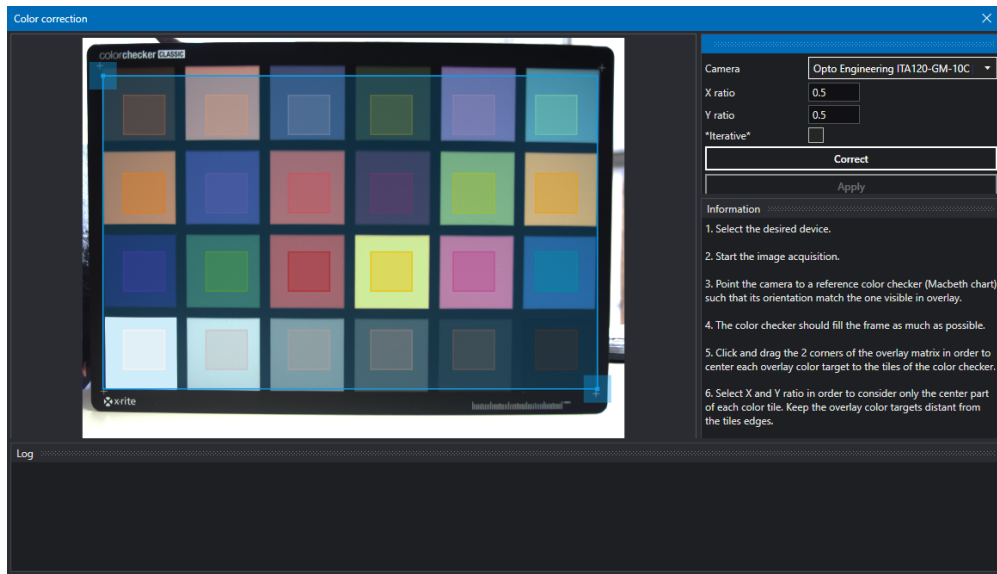

Figure 26: For optimal results, make sure to align the wizard color mask to the Macbeth color chart tiles.
5. The color checker should fill the frame as much as possible (Fig.26).